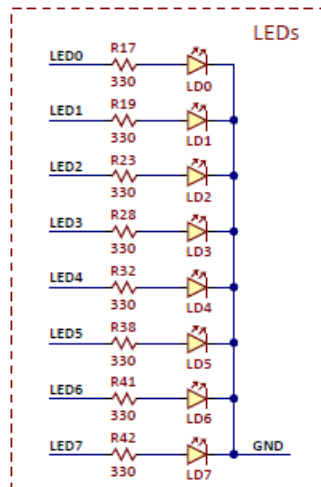

Figure A.3. Basyx MX3 LEDs.
3. Using the schematic diagram shown in Fig. A.3 for LED0 through LED7 on the Basys MX3 and Figs. 32-1 presented in Reference 2, when Vdd is 3.3V: